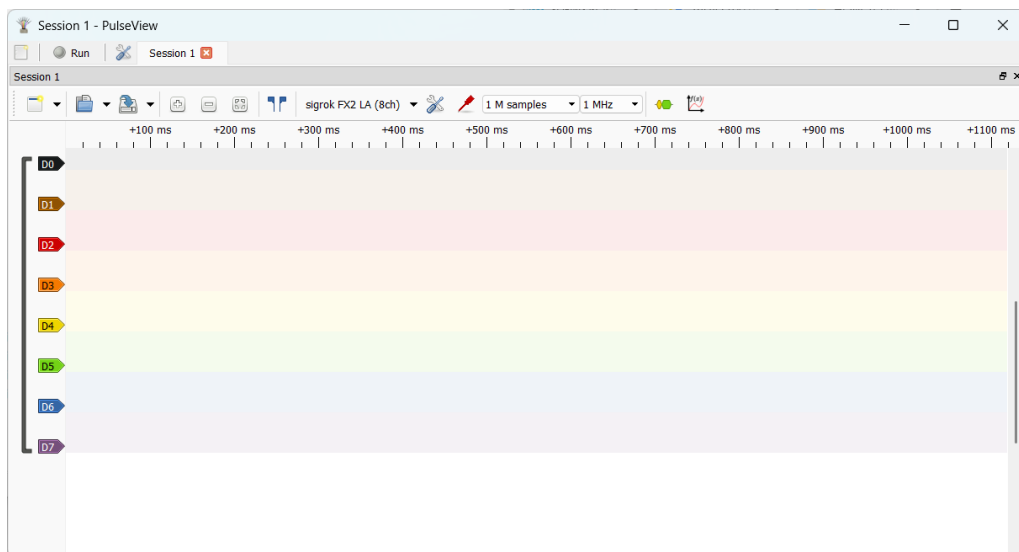

**Figure 3:** WeAct Studio Logic Analyzer
8.1 Connect jumper wires to the USB logic analyzer. As an example, the WeAct Studio Logic Analyzer is used, as shown in **Figure 3**.